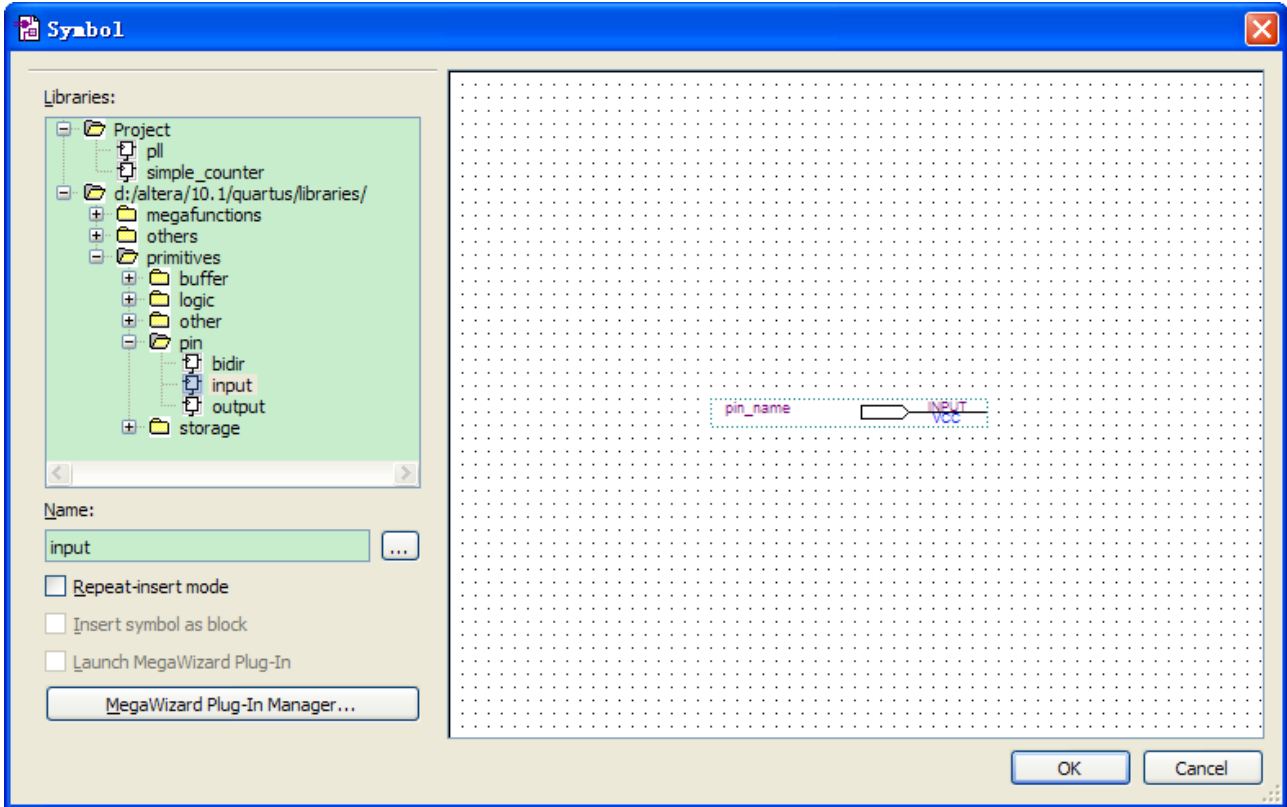

Figure 6-28 Input pin symbol
- b. Under Libraries, select quartus/libraries > primitives > pin >input. See Figure 6-28